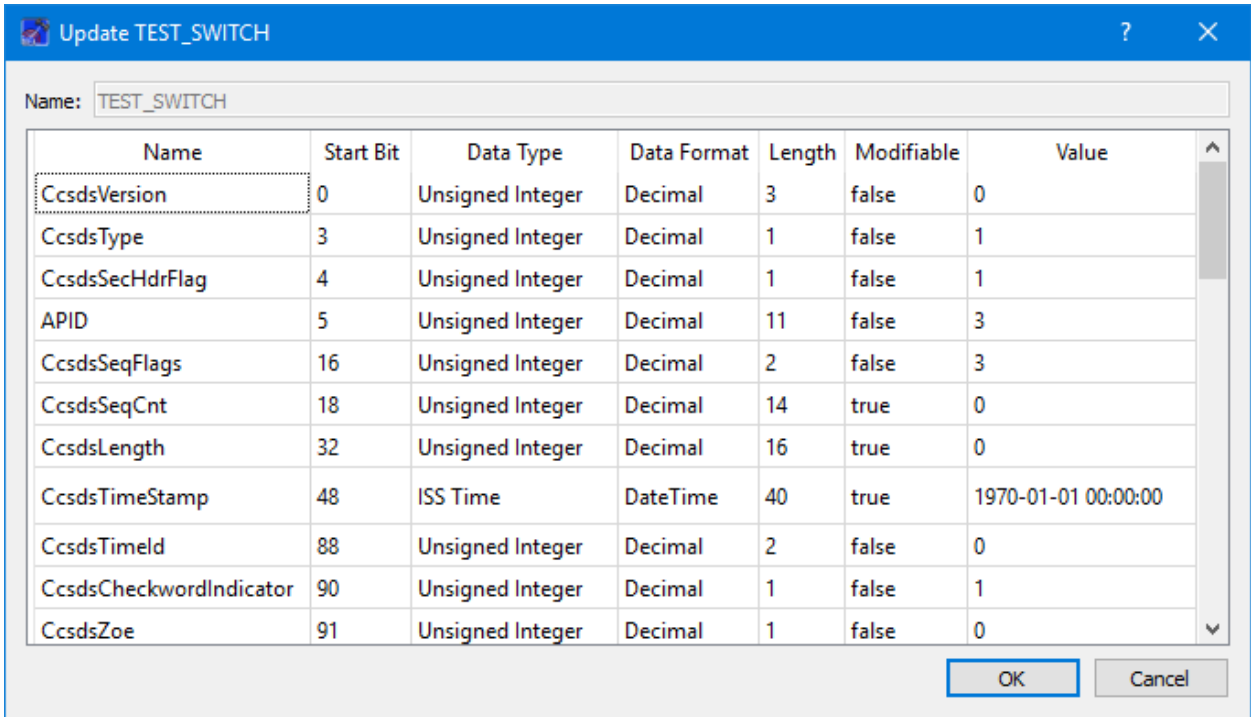

Figure 12 Update Command Dialog for TEST_SWITCH
11. Push the Update button to display the Update Command dialog shown in Figure 12.